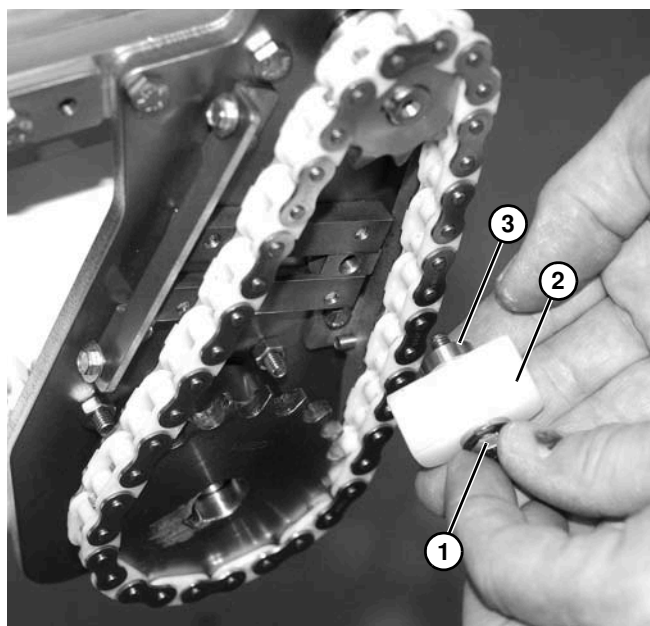

Figure 65
10. Install screw and washer (**Figure 65, item 1**), timing chain tensioner (**Figure 65, item 2**), and spacer (**Figure 65, item 3**) onto drive mounting bracket.